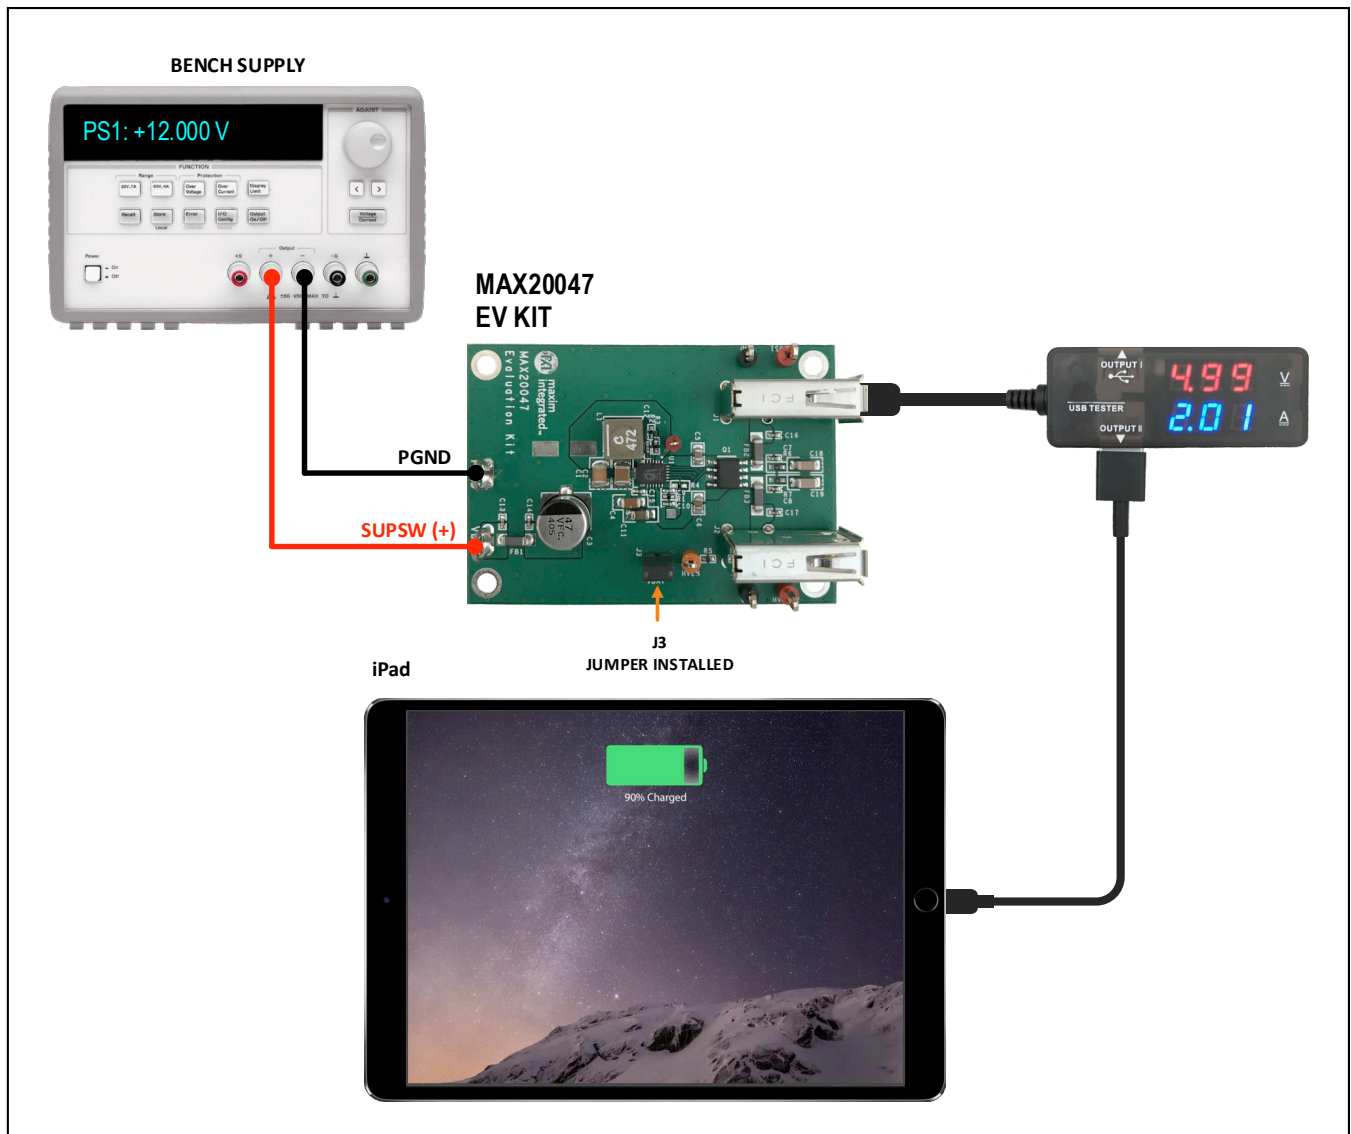

Figure 4. Test Setup for Verifying DCP Charger Detection with an iPad
Figure 4 shows the test setup to evaluate the IC's VBUS port voltages:
- 1) Connect the equipment (see Figure 4), set PS1 to 12.000V, and enable the power-supply output.